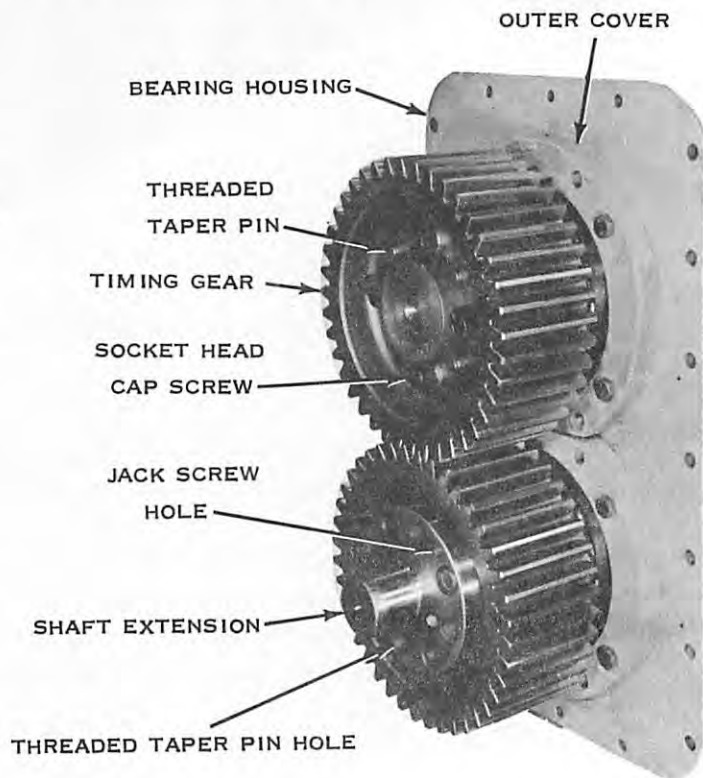

FIGURE 5. TIMING GEARS
2. REMOVE THE 5/8 INCH - 11 UNC SOCKET HEAD CAP SCREWS FROM THE TIMING GEAR. IF ROTOR HAS A BACK STOP, PULL BACK STOP EXTENSION WITH JACK SCREWS WHICH ARE SCREWED INTO THE 1/2 INCH - 13 UNC HOLES IN THE EXTENSION (SEE FIGURE 5).